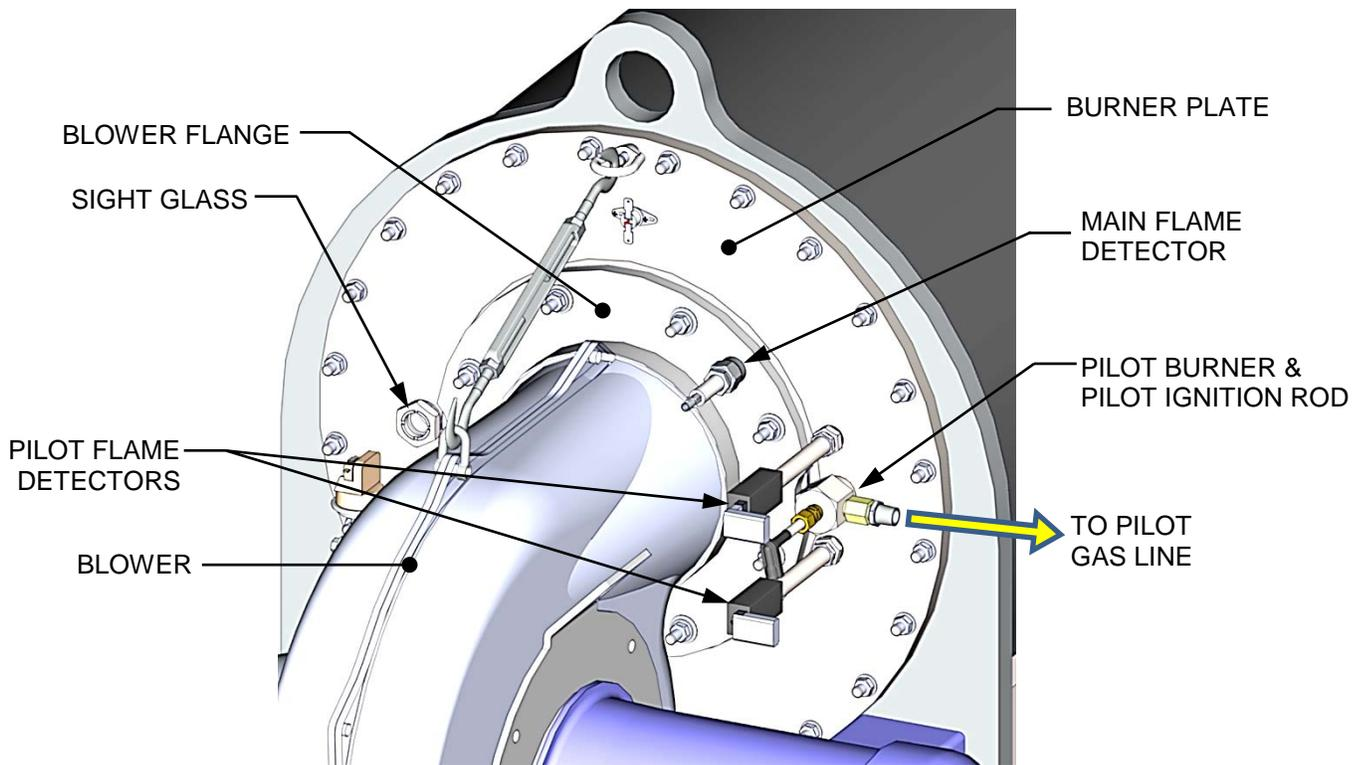
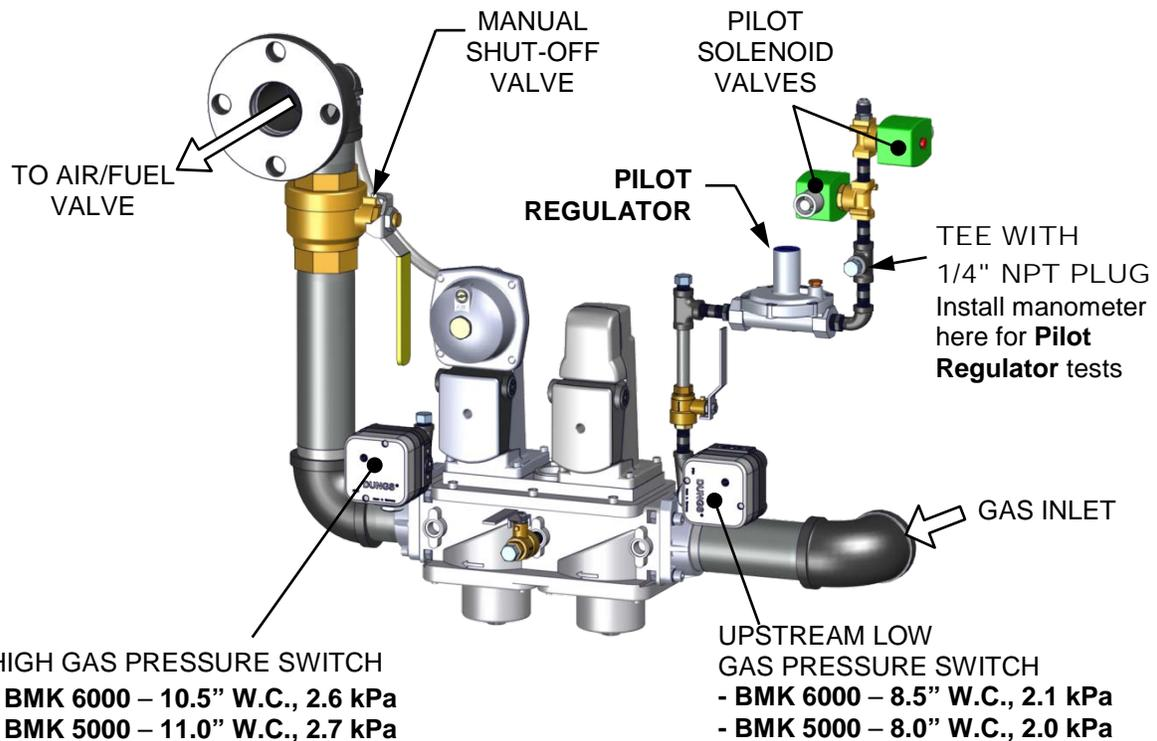

Figure 4-1a: Pilot Burner, Main & Pilot Flame Detector Mounting Locations
Figure 4-4: BMK 5000/6000 Single Fuel Pilot Regulator Mounting Location
The Pilot Burner (P/N **29700**) is located on the right-front of the Burner Plate. It contains an ignition cable, the Pilot gas line connected to the bushing, and the Pilot Burner Rod (P/N **66100**), which should be inspected and/or replaced according the schedule in Table 4-1a. Figure 4-1a shows the location of the Pilot Burner and related components.
3. Disconnect the ignition cable from the Pilot Burner (Figure 4-1a).
4. Using a 1/2" open-end wrench, disconnect the Pilot gas line from the reducer fitting and elbow shown in Figure 4-1a.
The Main Flame Detector (field replacement unit P/N **65182**) is located on the Blower Flange near the top of the unit (see Figure 4-1a, above). The Main Flame Detector may be hot. Allow the unit to cool sufficiently before removing the Main Flame Detector. Inspect or replace the Main Flame Detector as follows:
Benchmark 5000 & 6000 hot water boilers feature a Pilot Regulator system in the Natural Gas gas train (see Figure 4-4).
3. Remove the 1/4” NPT plug from the Tee on the outlet side of the Pilot Regulator (Figure 4-4) and insert a NPT-to-barbed adapter fitting.
5. Remove the cap from the Pilot Regulator to access the gas pressure adjustment. Rotate the regulator adjustment (beneath cap) clockwise (CW) to its highest possible pressure setting.
10. Pull out one of the Pilot Flame Detectors (see Figure 4-1a, above) and look into the observation port on the front plate. You should see the orange glow of the Pilot flame during the ignition trial period.
3. Remove the pipe plug from the 1/4" NPT port on the outlet side of the Pilot Regulator (Figure 4-4, above) and insert a NPT-to-barbed adapter fitting.
5. Remove the cap from the Pilot pressure regulator and rotate the regulator adjustment (beneath cap) clockwise (CW) to its highest possible pressure setting.
9. Pull one of the Pilot Flame Detectors out (see Figure 4-1a) and look into the port in the front plate. You should see the orange glow of the Pilot flame during the ignition trial period.